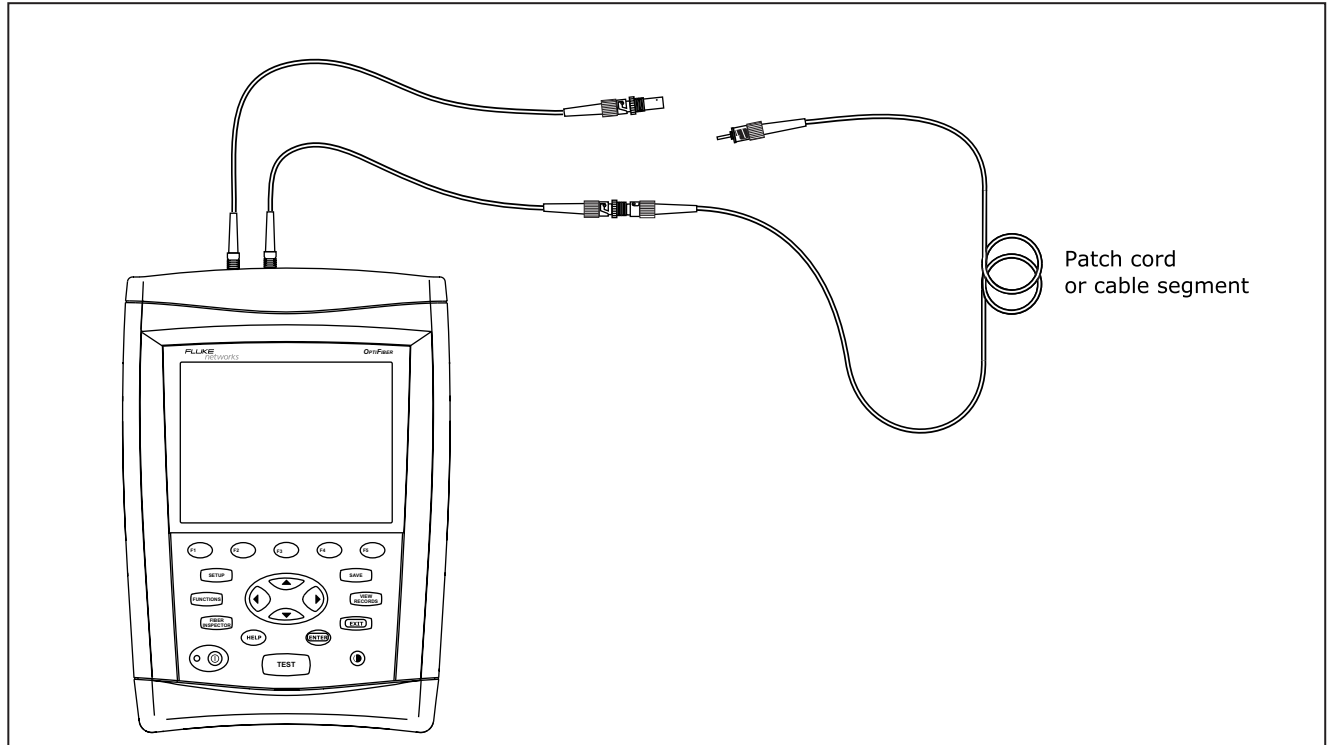

Figure 6-14. Using FindFiber in Loopback Mode
2. Clean all connectors; then connect the tester's OUTPUT fiber to one end of the fiber path, as shown in Figure 6-14.